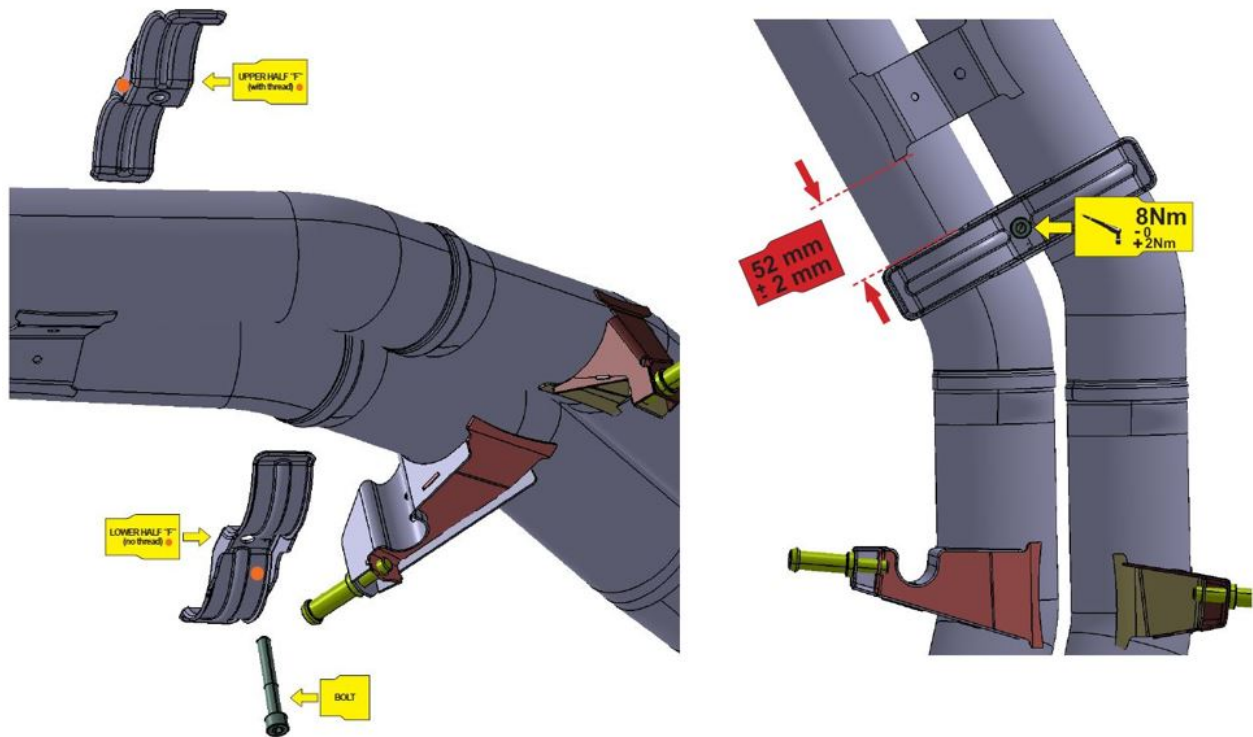

Figure 3. Front clamp positioning
- Align the bracket 52 mm ± 2 mm mm from point as shown in figure 3.